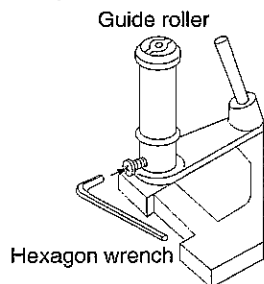

Figure 1-35.
- b) Loosen the setscrew at the lower part of the guide roller, and adjust it with an adjusting screw driver (JIGDRIVERH-4) so that the guide roller turns smoothly. (Do not overloosen the setscrew, which causes insecurity of the guide roller.) (See Figure 1-35.)